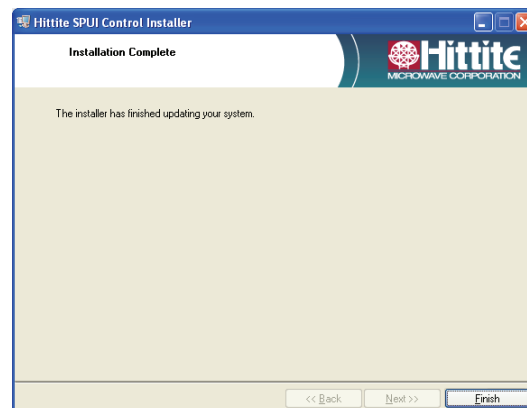

Figure 13. Software Installation Finish Screen.
9. When the software is done installing on the PC, the screen in Figure 13 will appear. Click Finish to complete software installation.